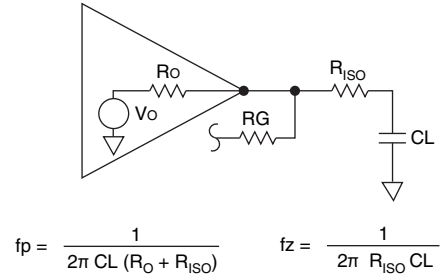
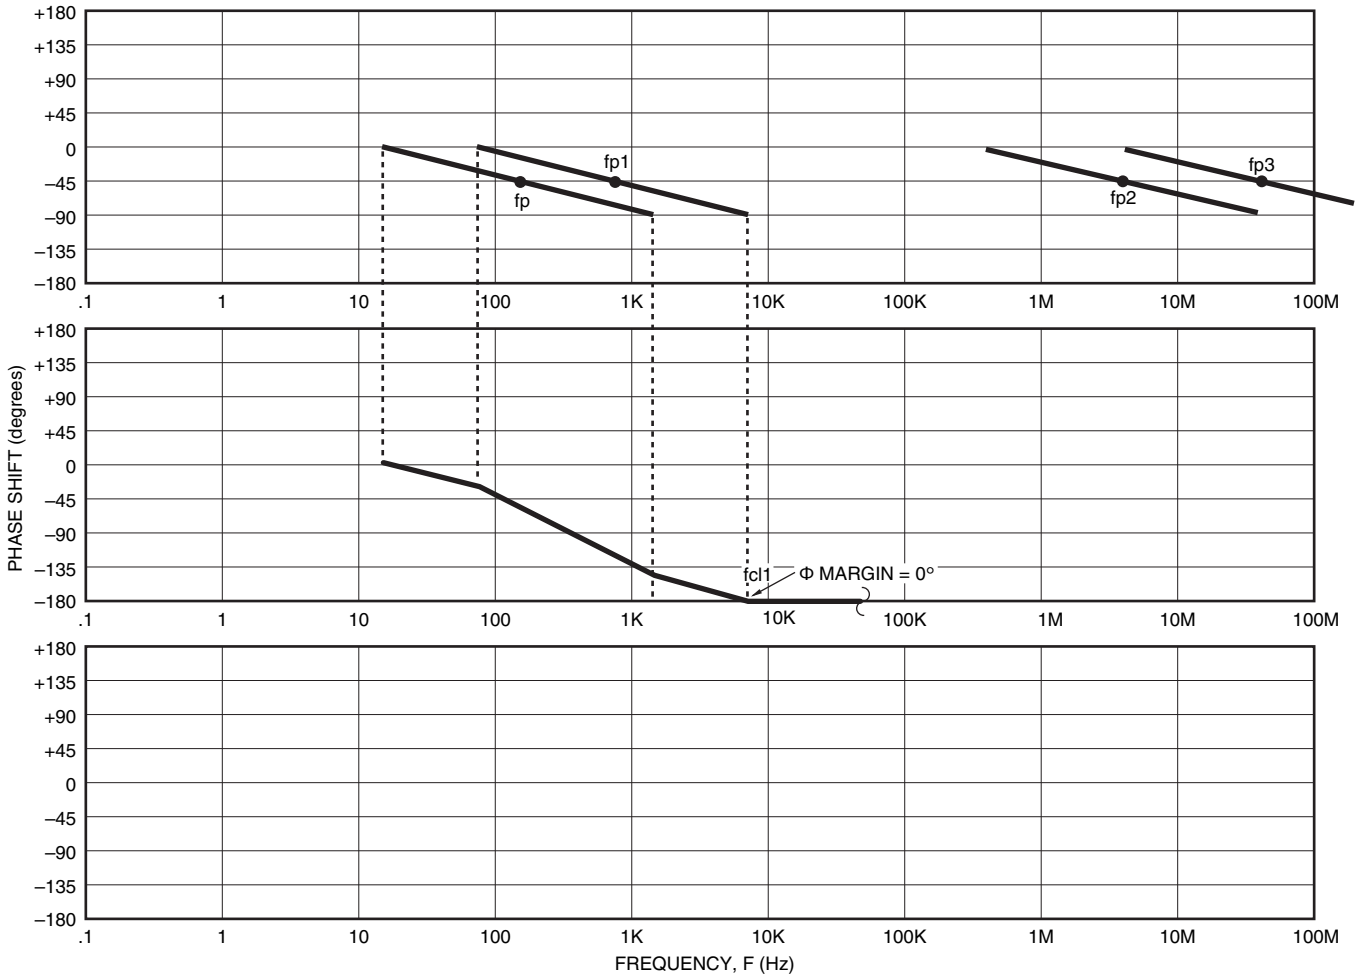
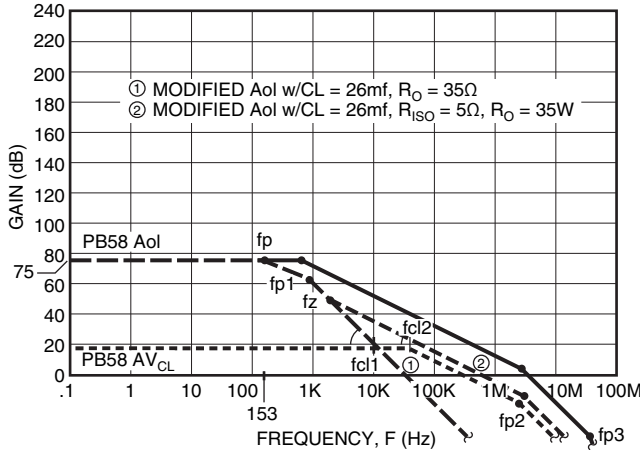
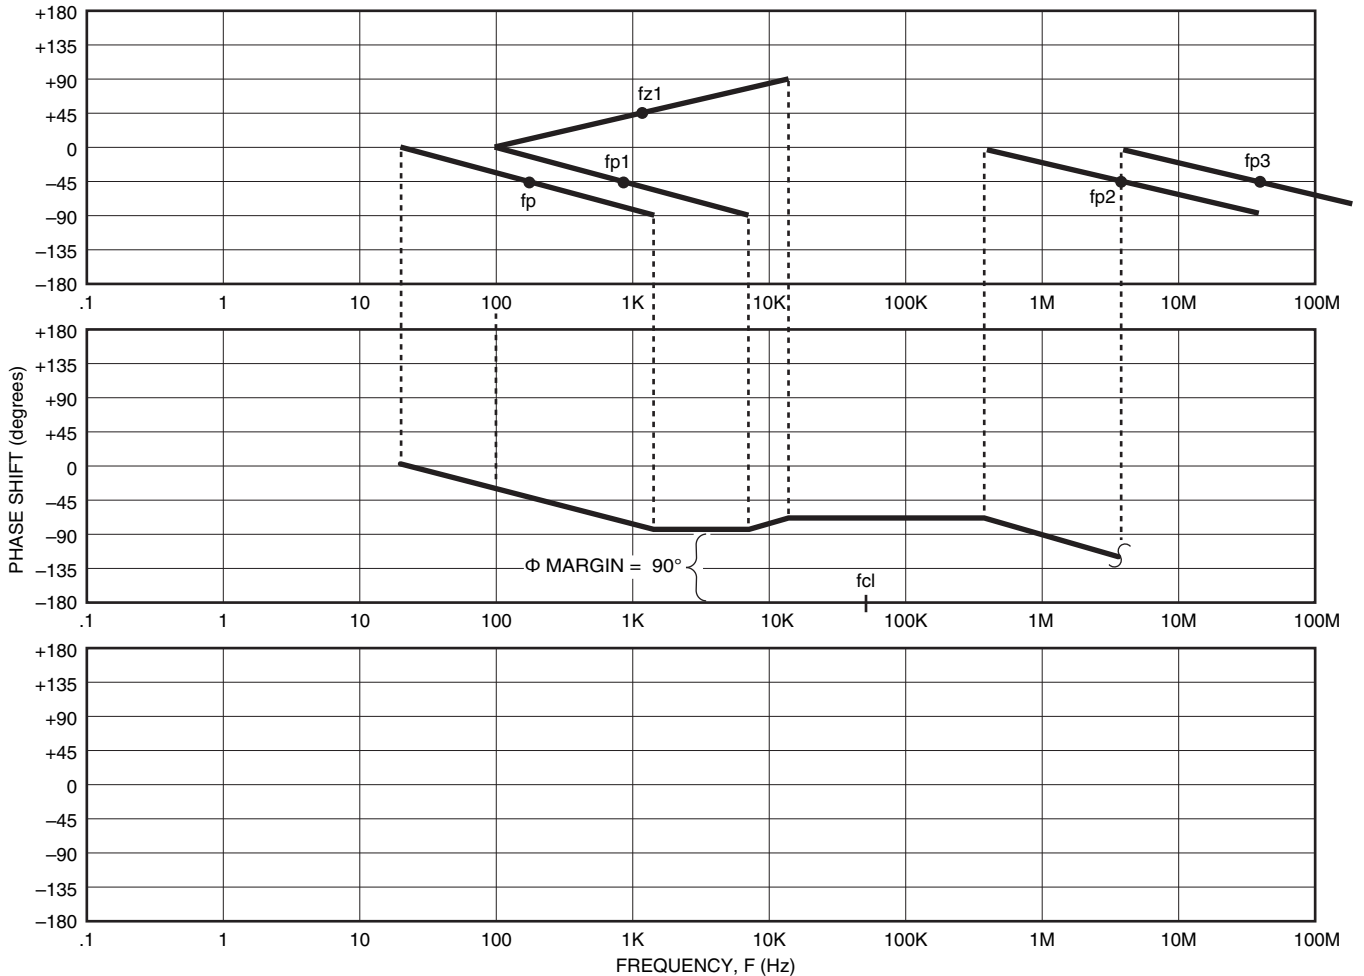

FIGURE 12A: R_{iso} & CL
FIGURE 14. OPEN LOOP PHASE PLOT FOR STABILITY CURVE ① (w/o R_{iso})
FIGURE 13. R_{ISO} & CAPACITIVE LOAD EFFECTS
FIGURE 15. OPEN LOOP PHASE PLOT FOR STABILITY CURVE ② (w/ R_{ISO})
Figure 12A (back 2 pages) illustrates a technique for isolating the capacitive load through the use of R_{ISO}. This isolates the point of feedback, where RG is connected, from the capacitive load. The addition of R_{ISO} adds a zero in the modified Aol plot to counteract the pole formed by Ro and CL. Figure 12A also contains the equations for the modified Aol curve defining fp and fz.
to drive a 26µF capacitive load. Figure 13 (previous page) illustrates the modified Aol curve with and without the use of Riso. From Figure 14 (back 2 pages) we see -28 degrees of phase margin without R_{ISO}. However, in Figure 15 (previous page) we have 90 degrees of phase margin through the use of R_{ISO}.
STEPS FOR CALCULATING R_{ISO}: (See Figure 13, previous page)
STEP 3: Calculate final value for R_{ISO}: Calculate from formula for fz in Figure 12A the value for R_{ISO} from fz location in Figure 13. Recalculate final value for fp and plot final modified Aol ensuring final location of fz meets criteria in STEP 2.
The stability of the PB58 composite amplifier begins with first ensuring the PB58 itself is stable. This is accomplished with the use of R_{ISO} in Section 3.1 and Figure 13. Figure 17 (previous page) creates the composite Aol by adding the closed loop